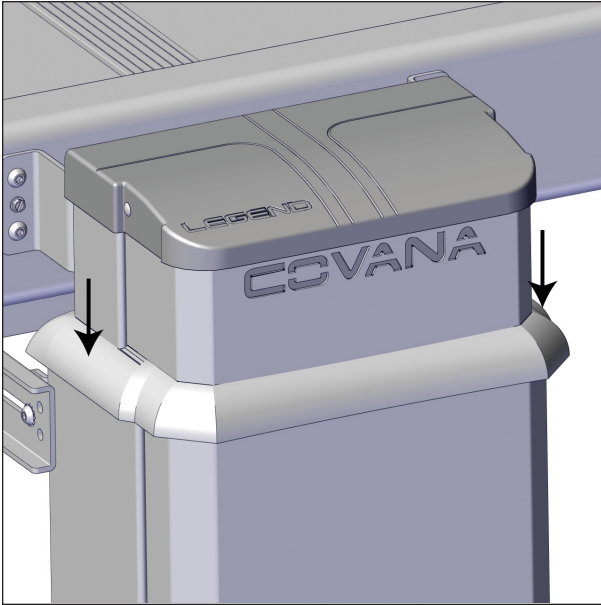

FIGURE 82: SEAL INSTALLATION
27. For all posts, slide the all-weather seal down. Ensure they are properly seated on the outer sleeve base. Push down on the seal as shown in Figure 82.